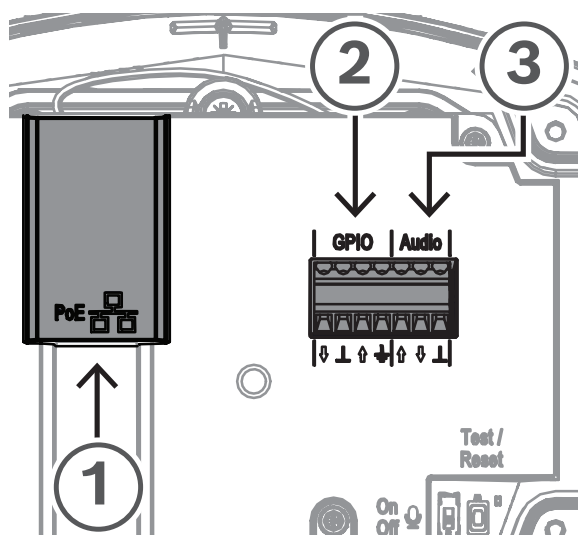

Figure 2.3: Back panel of the IP Horn loudspeaker (without the cover)
Connecting the network (Figure 2.3, callout 1)
4. Connect that end of the cable to the network port (Figure 2.3, callout 1).
Connecting the GPIO (Figure 2.3, callout 2)
Connecting the analog Audio (Figure 2.3, callout 3)
4. Connect the wires to the Audio terminal on the device (Figure 2.3, callout 3).